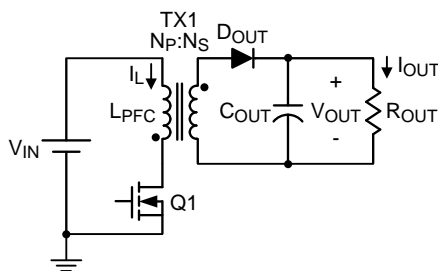

Figure 2. Typical flyback Converter
Figure 2 shows a typical flyback converter. When the MOSFET turns on with a fixed on-time (t_{ON}), the inductor current can be calculated by the following equation (1).